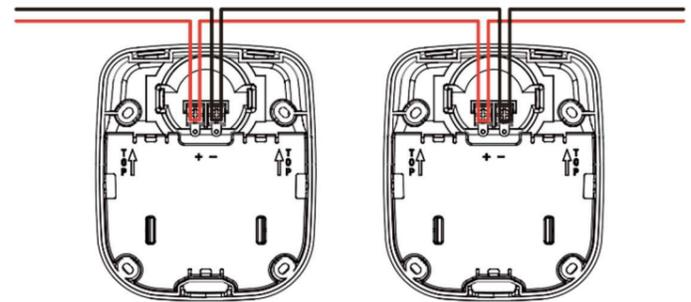

Figure 2: LED Strobe and Horn Wiring
- Break all 2 wire runs on supervised circuits to ensure integrity of circuit supervision as shown in Figure 2. The polarity shown in Figure 2, the wiring diagram, is for the operation of the appliances. The polarity is reversed by the FACP during supervision.